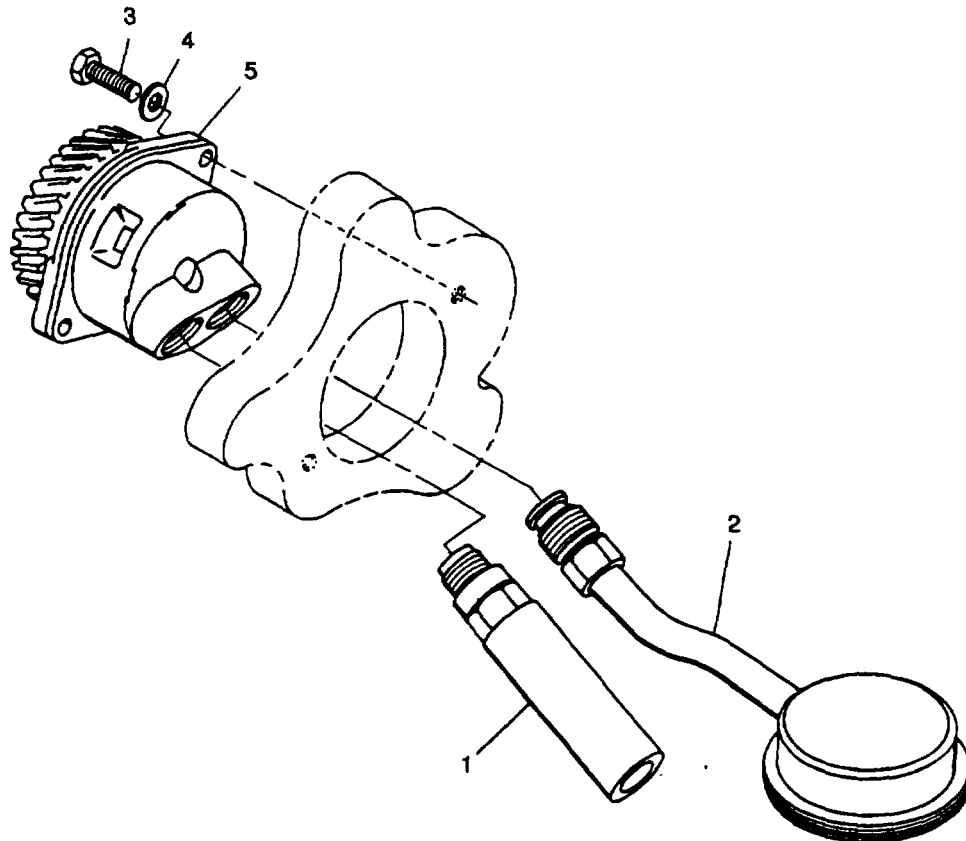

FIGURE 3-17. Strainer and Oil Pump
- d. From inside crankcase, unscrew oil pressure relief valve (1, FIGURE 3-17) from oil pump (5).
- e. Unscrew strainer (2) coupling nut from oil pump (5).
- f. Remove two capscrews (3) and washers (4) securing oil pump (5); remove oil pump.
- a. Position oil pump (5, FIGURE 3-17) in crankcase with cutout section of pump behind gear facing top of crankcase.
- b. Secure oil pump (5) with two capscrews (3) and washers (4). Tighten capscrews to 78 in-lbs (8.8 Nm).
- c. Install oil strainer (2) in right pump port with strainer gauze parallel with sump base. Tighten retaining nut.
- d. Install relief valve (1) in left pump port and tighten retaining nut.